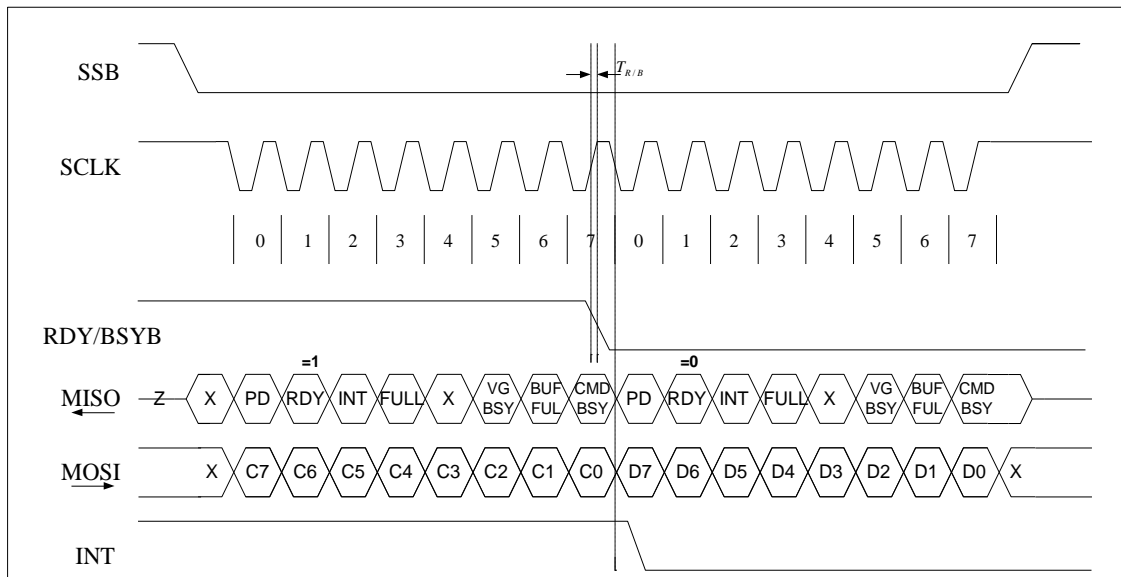

Figure 8-3 SPI Transaction Ignoring RDY/BSYB
For commands (i.e., DIG_READ, SPI_PCM_READ) that read data from the ISD2100 device, MISO is used to read the data; therefore, the host must monitor the status via the RDY/BSYB pin and take the necessary actions. The INT pin will go low to indicate (1) data overrun/overflow when sending data to the ISD2100; or (2) invalid data from ISD2100. See Figure 8-3 for the timing diagram.